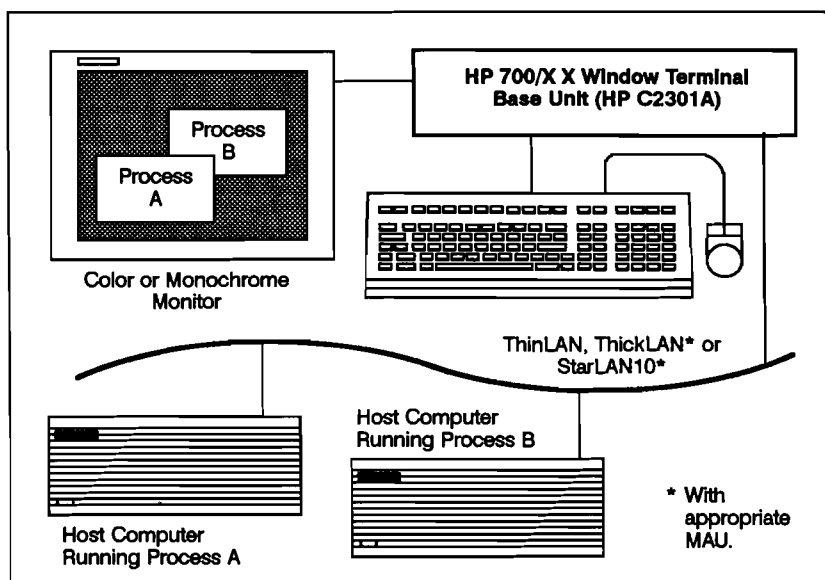

Figure 13-6. LAN-connected X Window Graphics Terminal
- LAN-connected X-Window Graphics Terminals (see Figure 13-6 and Table 13-4, page 13-7).
The HP 700/X family of X Window Graphics terminals offer a means of adding user seats to a network at lower cost than a diskless workstation or a LAN connected X Window PC. X Window Graphics Terminals are based on the HP C2301A Base Unit (Figure 13-6 at right). With 1 MB RAM, expandable to 4 MB, the base unit supports color displays of 16 colors from a palette of 4096 or monochrome displays with 16 levels of gray scale. Resolutions of 640 by 480, 800 by 600, and 1024 by 768 are supported. For HP 700/X bundles, components, and peripherals, see Table 13-4, below.